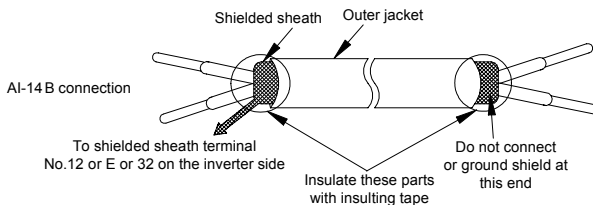

Fig. 3 Preparing The End of Shielded Wire
- (1) The wiring for the control signals (terminals TC1-1 to TC1-4) of the analog reference card AI-14B should be separated from main circuit wiring and other power lines.
- (2) Use the shielded lead for control signal wiring and terminate the cable end as shown in Fig. 3 (to prevent malfunction due to noise). Wiring length should be 10 m or less.
- (3) If any of control signal input terminals TC1-1 to TC1-3 are not used, be sure to connect them to 0 V terminal (TC1-4).